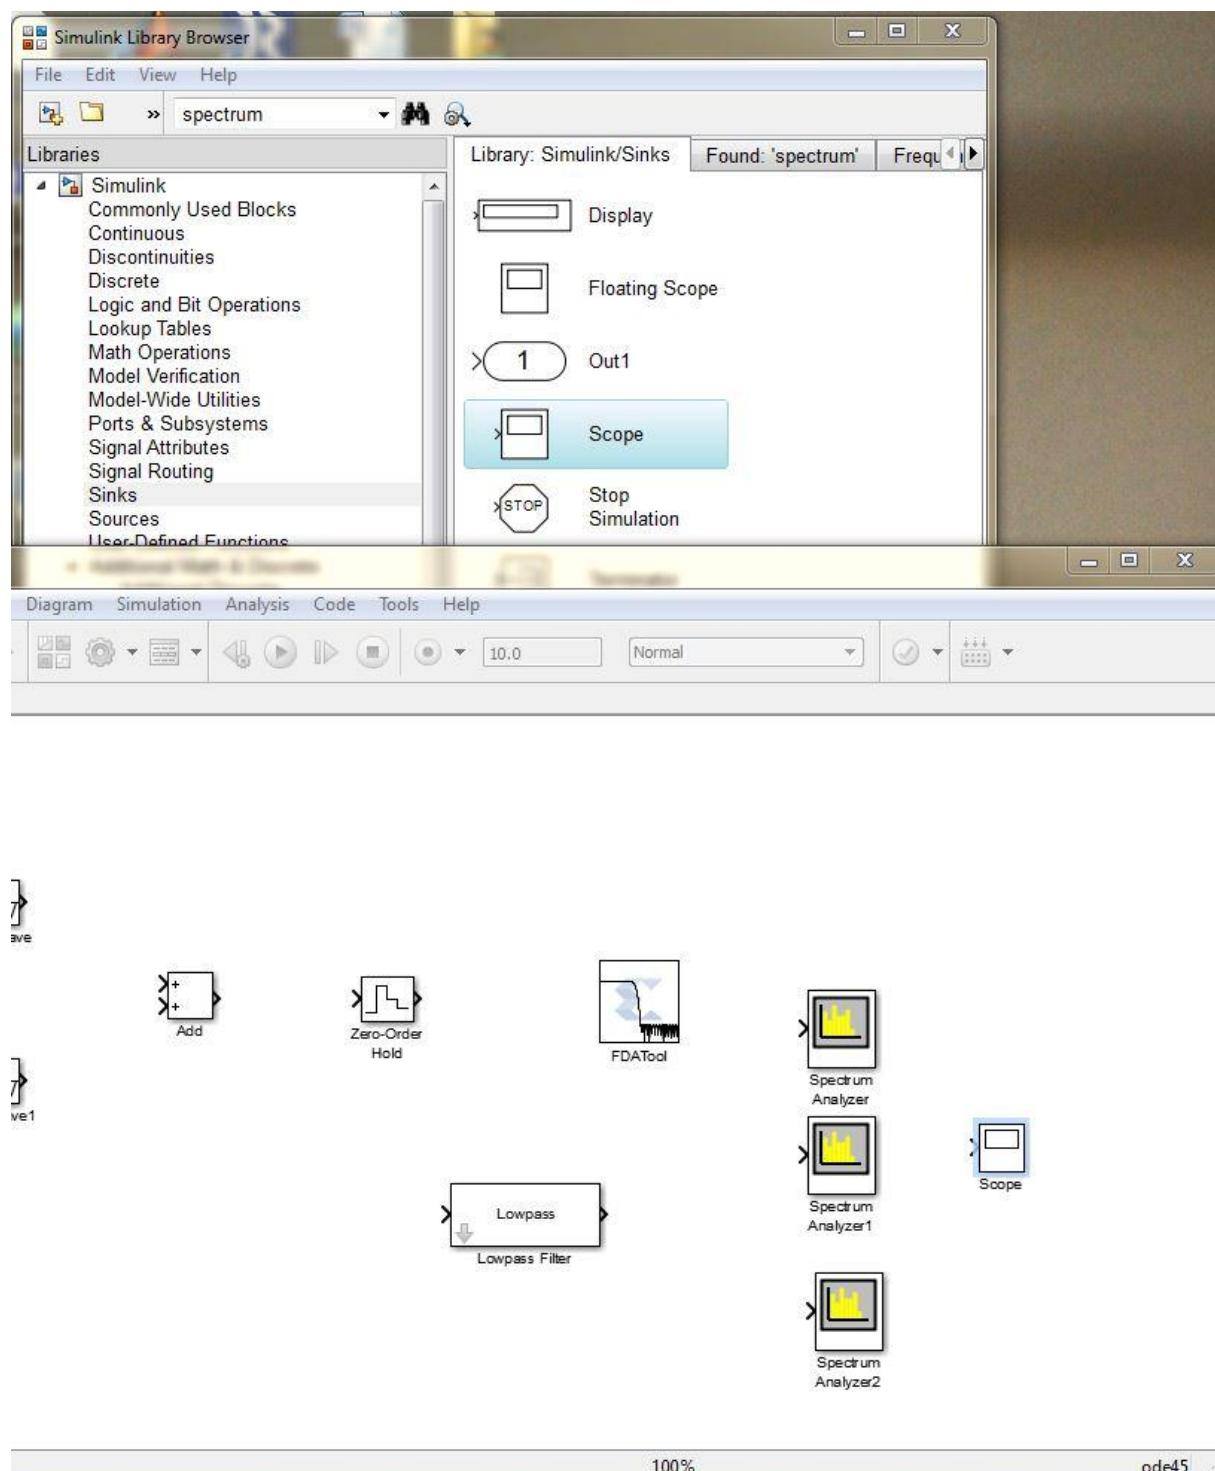

Figure 8: Addition of Scope.
9. Add Scope: *Simulink > Sinks > Scope* as shown in figure 8.